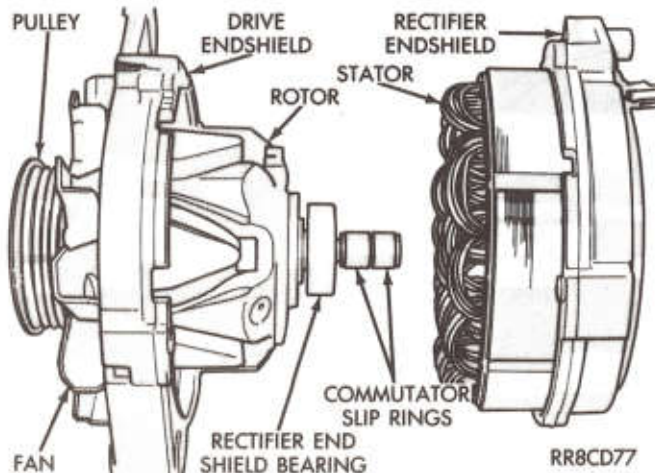

Fig. 9—Separate Stator from Drive End Shield
(7) Separate the stator and rectifier end shield from the drive end shield (Fig. 9).